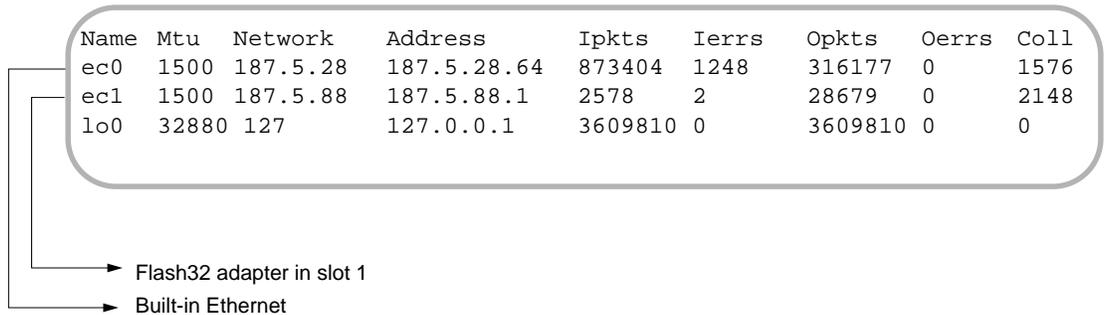

Figure 10 Example of a *netstat -in* Display
4. The display should look similar to Figure 10.
Two methods for obtaining station names are described below. The *ec#_networkaddress* variables used are the values in the *Network* column of the *netstat* display (illustrated in Figure 10).
4. Verify that the network portion (leftmost digits) of the addresses you are attempting to *ping* match the network address displayed by the */usr/etc/netstat -in* command. (See Figure 10 for an example of the *netstat* display.)